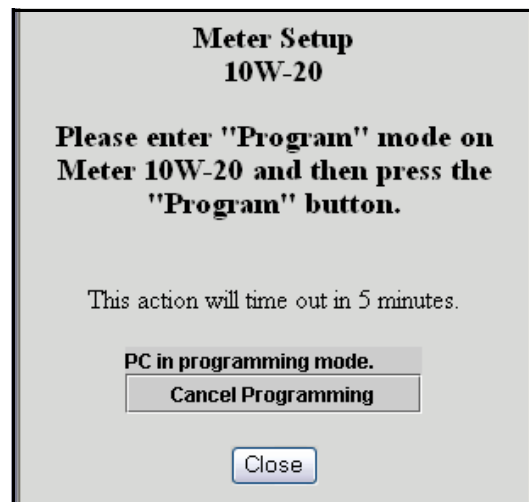

FIG. 85 Meter programming screen
2. Click that meter's *program* link. This puts the PC in program mode for that meter. You are prompted with the screen shown in FIG. 85.